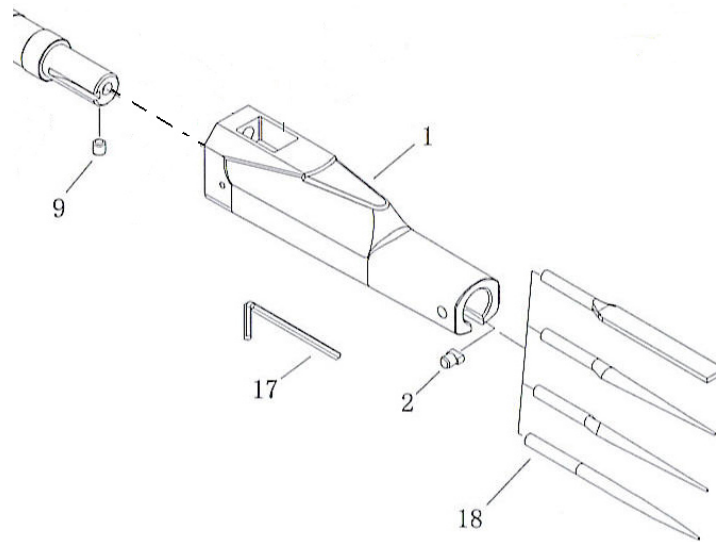

Figure 1
1. Using the Hex Wrench (17), slide the File (18) you wish to work with into the Guide Key (2) located at the front of the Air File Housing (1) and tighten Set Screw (9) which you will find just at the bottom of the front section of the Air File Housing (1). **Do not over tighten.** See **Figure 1**.